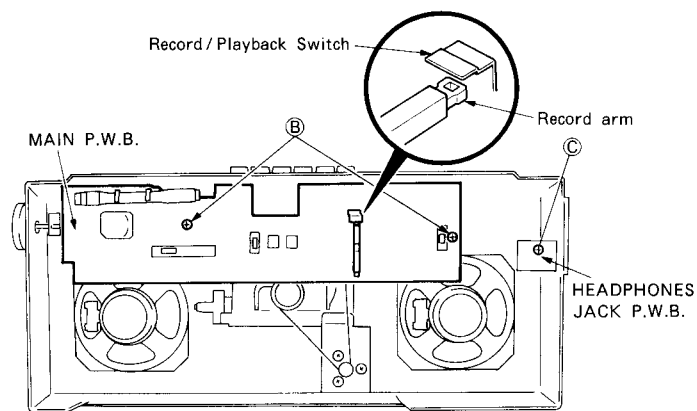

Fig. 4
- (3) Remove the 2 screws **B**. (Fig. 4)
**4. Removing the HEADPHONES JACK P.W.B. (Fig. 4)**